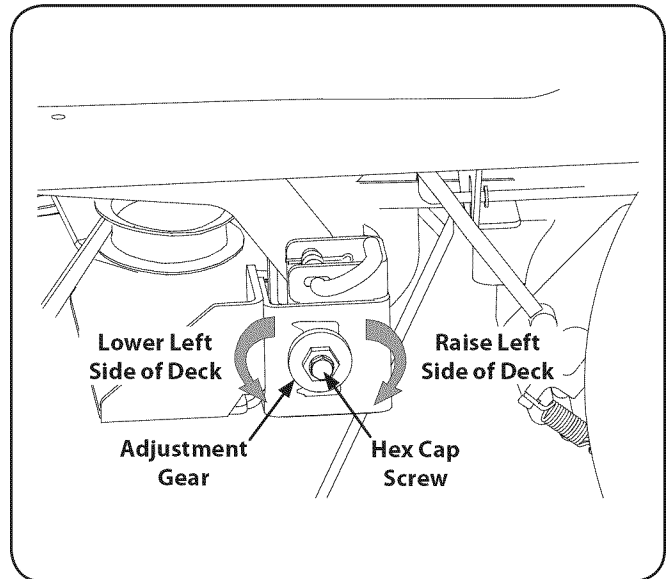

Figure 6-5
5. Loosen, but do not remove, the hex cap screw on the left deck hanger bracket. See Fig. 6-5.
6. Level the deck by using a wrench to turn the adjustment gear (found immediately behind the hex cap screw just loosened) clockwise to raise the left side of the deck, or counterclockwise to lower the left side of the deck. See Fig. 6-5.